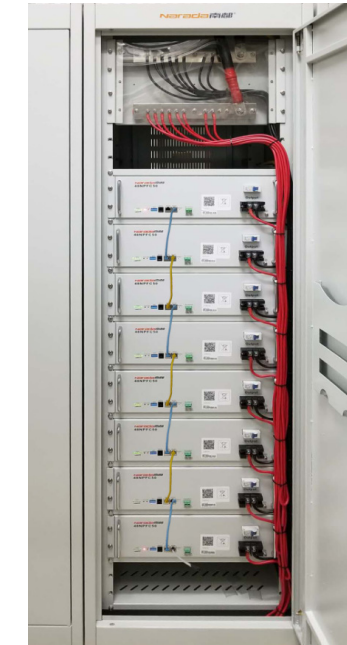

Fig. 4-2 Layout of paralleling connection for NPFC Series Batteries
- The picture of paralleling connection for NPFC Series Batteries see Fig. 4-2. There is a tray under each battery to support the battery.